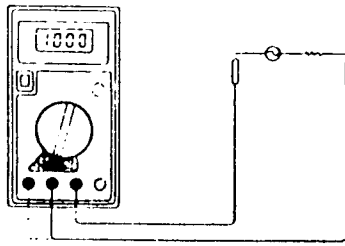

Fig 5-4 AC Current measurement
2. Set the FUNCTION switch to the AC A range to be used and connect the test lead in series with the load under measurement See Fig. 5-4.